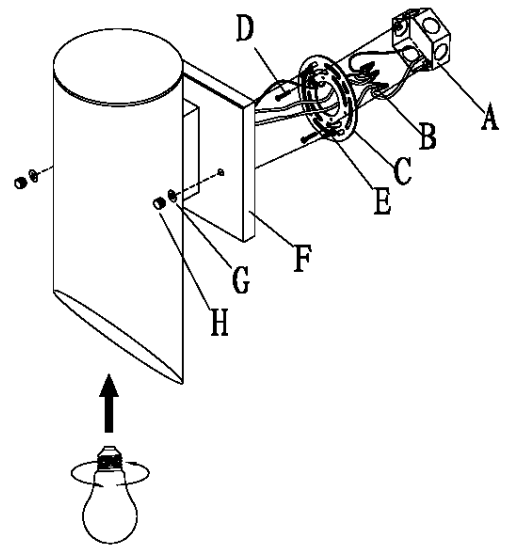

Fig. 2
CONNECTION THE WIRES (Fig. 2)
5. Connect the electrical wires as shown in Fig. 2. making sure that all wire connectors (B) are secured. If your outlet box has a ground wire (green or bare copper), connect the fixture's ground wire to it. Otherwise, connect the fixture's ground wire directly to the circular strap using the green screw